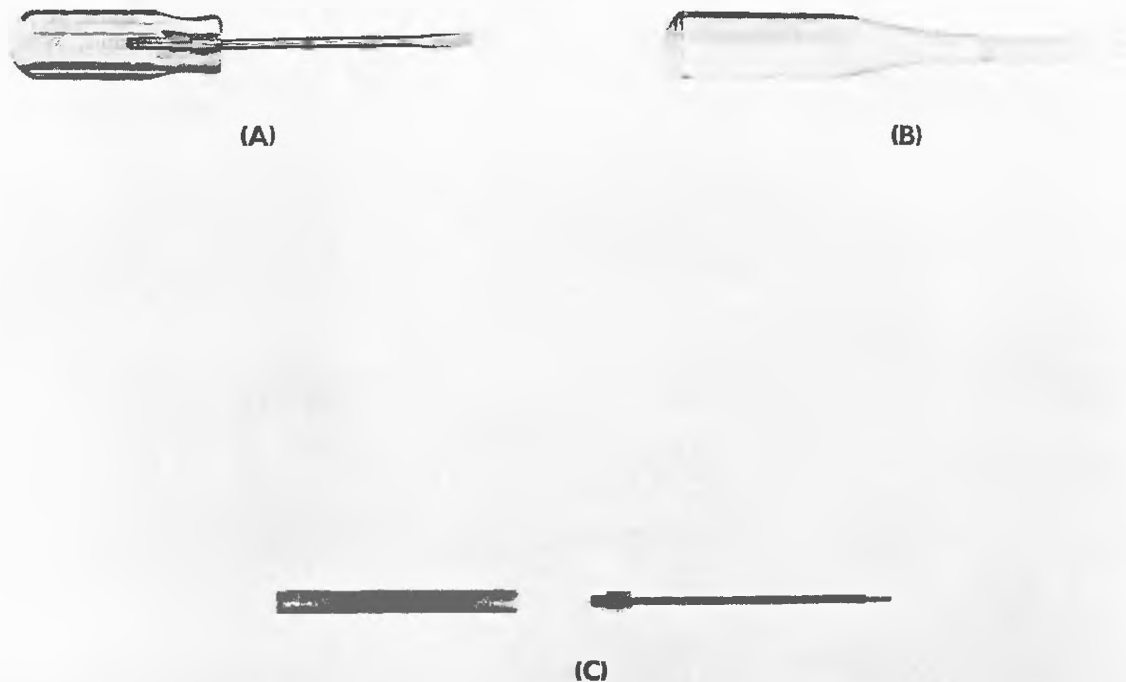

Fig. 6-2. Adjustment tools.
19. Adjustment tools (see Fig. 6-2).